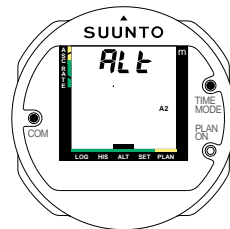

Fig.4.10 PERSONAL/ALTITUDE ADJUSTMENT SETTING, STEP 4
4. Connect the TIME/MODE and COM contacts to confirm this new personal/altitude adjustment mode (Fig. 4.10). The blinking will stop and the other mode indicators will disappear.